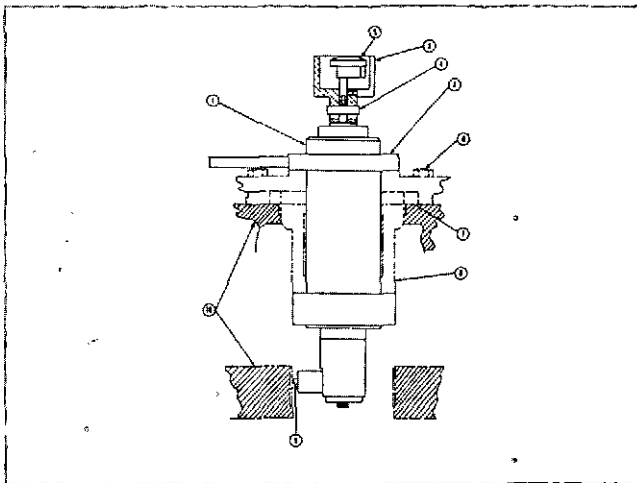

Fig. 1-1-9, V40152. ST-1082 Concentricity
If a piston seizure has occurred or after counterboring the cylinder block, it is a good practice to check the counterbore to lower cylinder liner bore concentricity. ST-1082 Concentricity Gauge may be used in combination with parts from ST-1081 Boring Tool. See Fig. 1-1-9.
1. Remove all carbon and scale from deck, counterbore and lower bore of block (10, Fig. 1-1-9).
2. Install ST 1084-5 Bore Adapter (8, Fig. 1-1-9) onto ST-1082 Concentricity Gauge (1) (wipe all furnished surfaces clean).
3. Install ST-1076 Adapter Plate (7) onto concentricity gauge (1) with 3/4 inch recess toward bore adapter (8).
4. Engage ST-1081-31 locking nut (5) onto concentricity gauge (1) and tighten locking nut ST-1081-30 handle until concentricity gauge, bore adapter and adapter plate are one unit.
5. Rotate adjusting knob (4) counterclockwise until it bottoms out against indicator holder (3), then rotate adjusting knob clockwise one revolution.
6. Install dial indicator (2) into indicator holder (3) and adjust indicator gauge to zero.